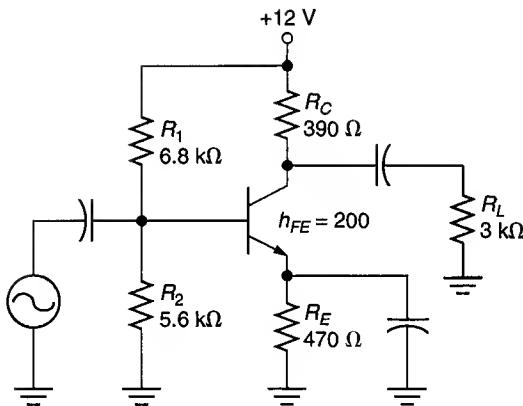

FIGURE 11.48
3. Calculate the compliance of the amplifier in Figure 11.48. Determine the type of clipping that the circuit would be most likely to experience.
13. Determine the values of P_S , P_L , and efficiency for the amplifier in Figure 11.48. Assume that the circuit is driven to compliance.
39. Calculate the value of P_D for the transistor in Figure 11.48.